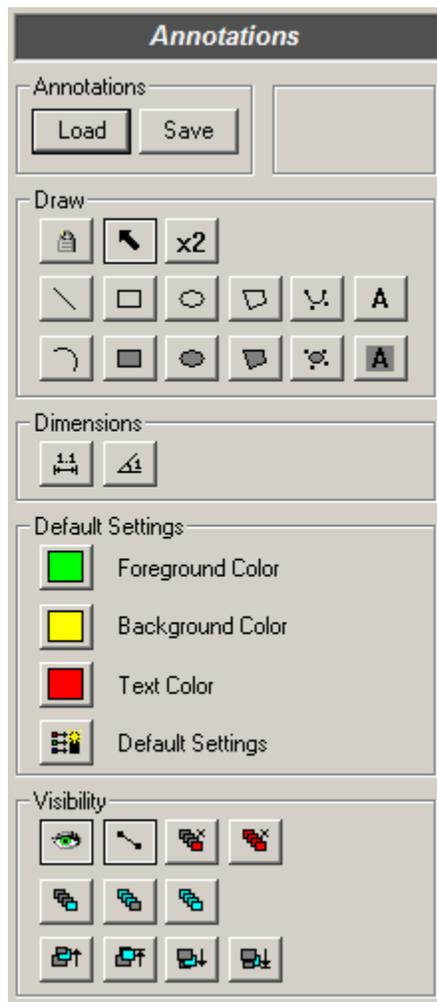

Figure 1. Annotations control panel
3. Click the **Annotations** button  on the right side of the video window to open the Annotations control panel, shown in Figure 1.